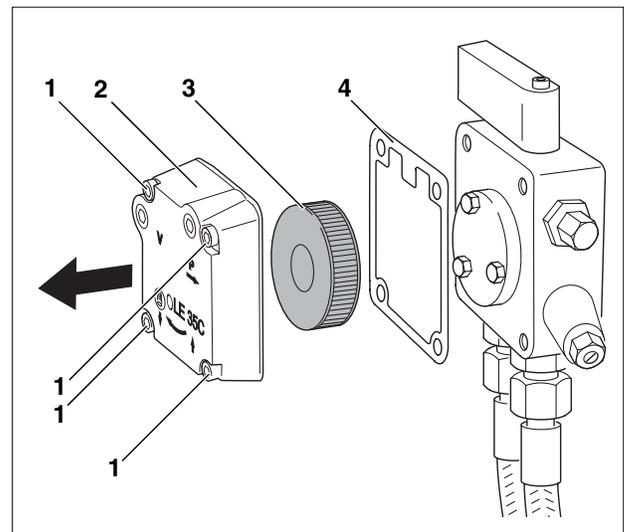

Fig 20 Check oil pump filter – Suntec oil pump
- Loosen 4 Allen head screws (Fig. 20, **Item. 1**).
- Remove pump cover (Fig. 20, **Item. 2**).
- Remove filter (Fig. 20, **Item. 3**).
- Visually check the condition of the gasket (Fig. 20, **Item. 4**) for damage. Replace gasket annually.
- Clean filter (Fig. 20, **Item. 3**) with gasoline, replace if excessive residue remains or filter shows signs of damage, then reassemble the oil pump.